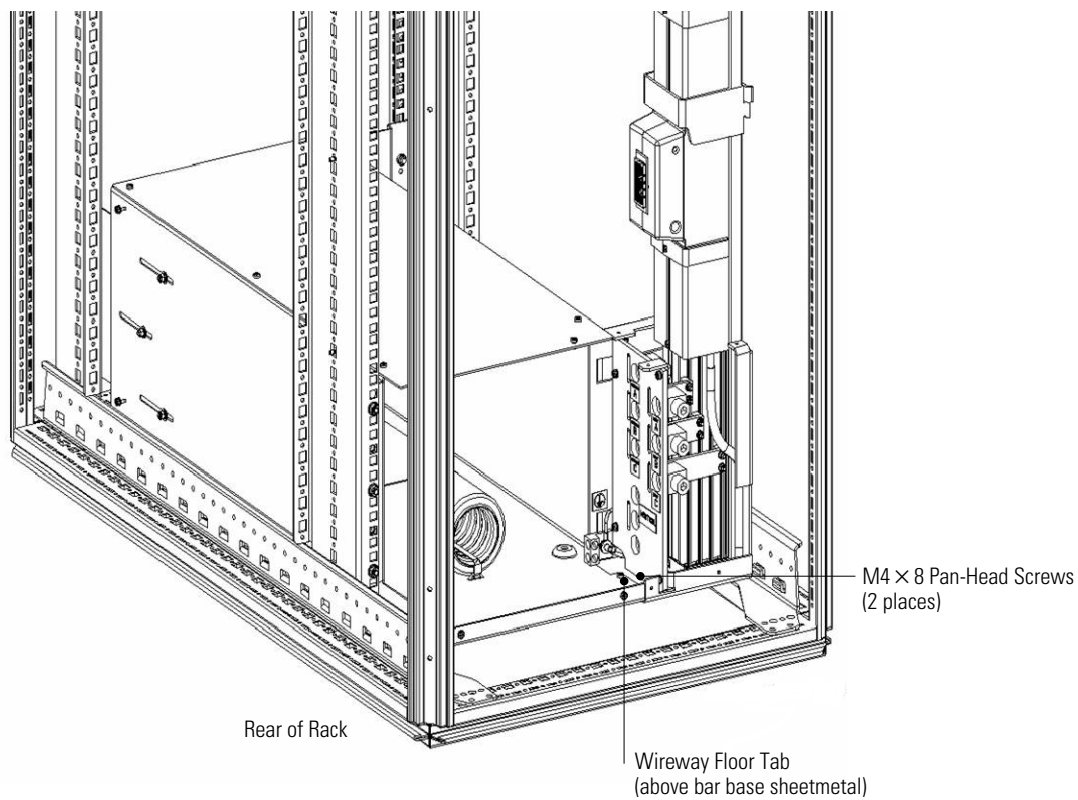

Figure 7. Wireway Tab Attachment
16. Install two M4 × 8 pan-head screws into the tab on the wireway floor, securing the base of the bar to the wireway. See Figure 7. Torque the screws to 1.7 ± 0.2 Nm (15 ± 2 lb in).